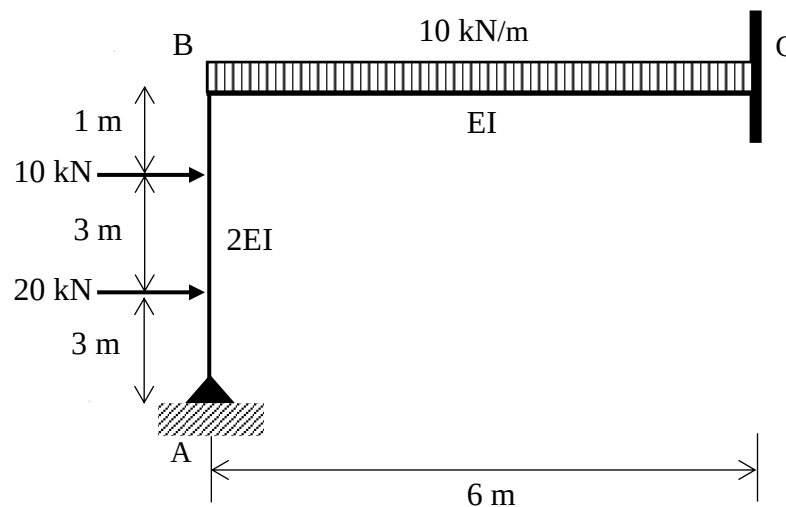

Figure 1(c) / Rajah 1(c)
- CLO1 (c) Figure 1(c) shows a non-sway portal frame subjected to a point load and a uniformly distributed load. Given value EI is not constant across spans.
- ii. Calculate the final moment at points A, B, and C for Figure 1 (c) by using Moment Distribution Method with **THREE (3)** cycles of distributions. Given $DF_{BA} = 0.57$ and $DF_{BC} = 0.43$.
*Kirakan nilai momen akhir pada setiap penyokong bagi Rajah 1(c) dengan menggunakan Kaedah Agihan Momen dengan **TIGA (3)** kali agihan. Diberi $FA_{BA} = 0.57$ dan $FA_{BC} = 0.43$.*